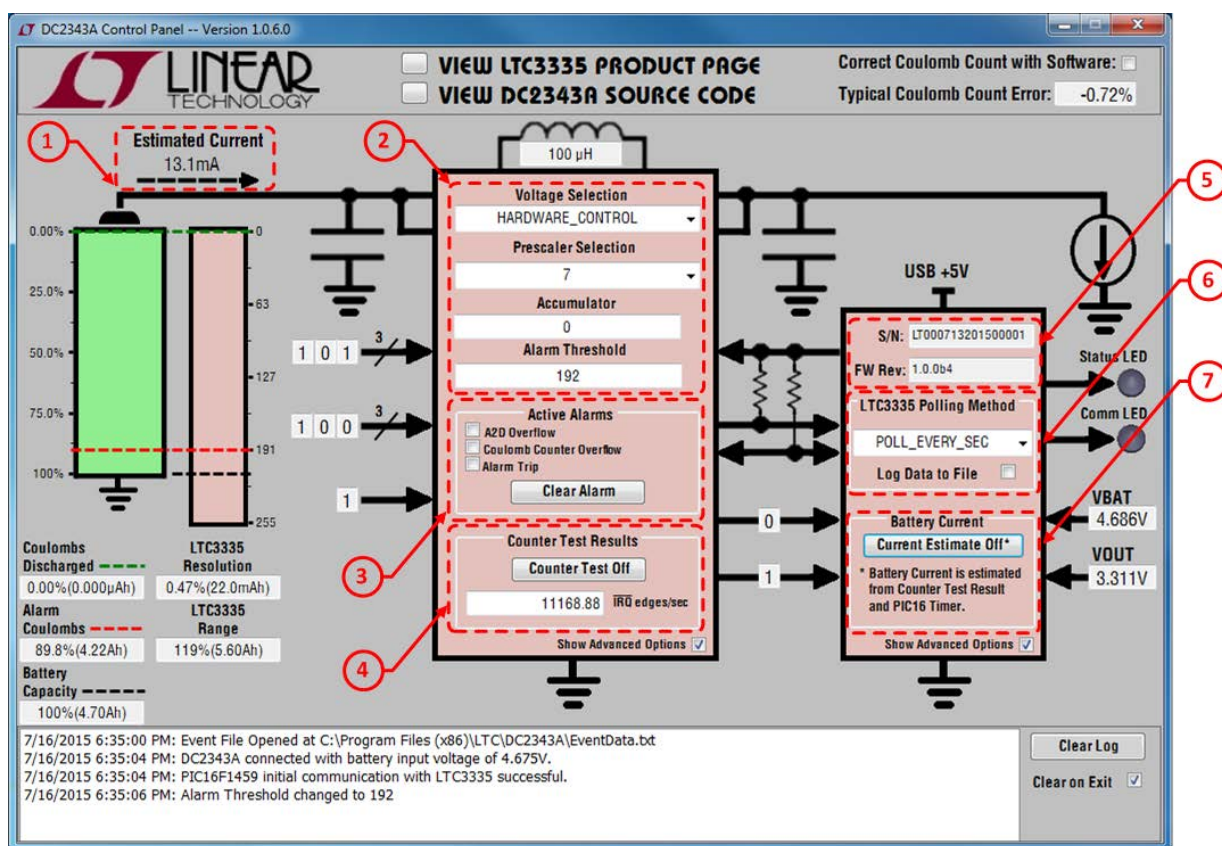

Figure 12. Control Panel Window—Advanced Options
5. Checking this box will expose additional controls for the LTC3335. See the control panel advanced mode in Figure 12.
7. Checking this box will expose additional controls for the PIC16F1459. See the Control Panel Advanced Mode in Figure 12.
When the Show Advanced Options checkbox is selected for the LTC3335 and PIC16F1459 on the control panel, several additional controls are exposed to the user. These controls are in Figure 12.